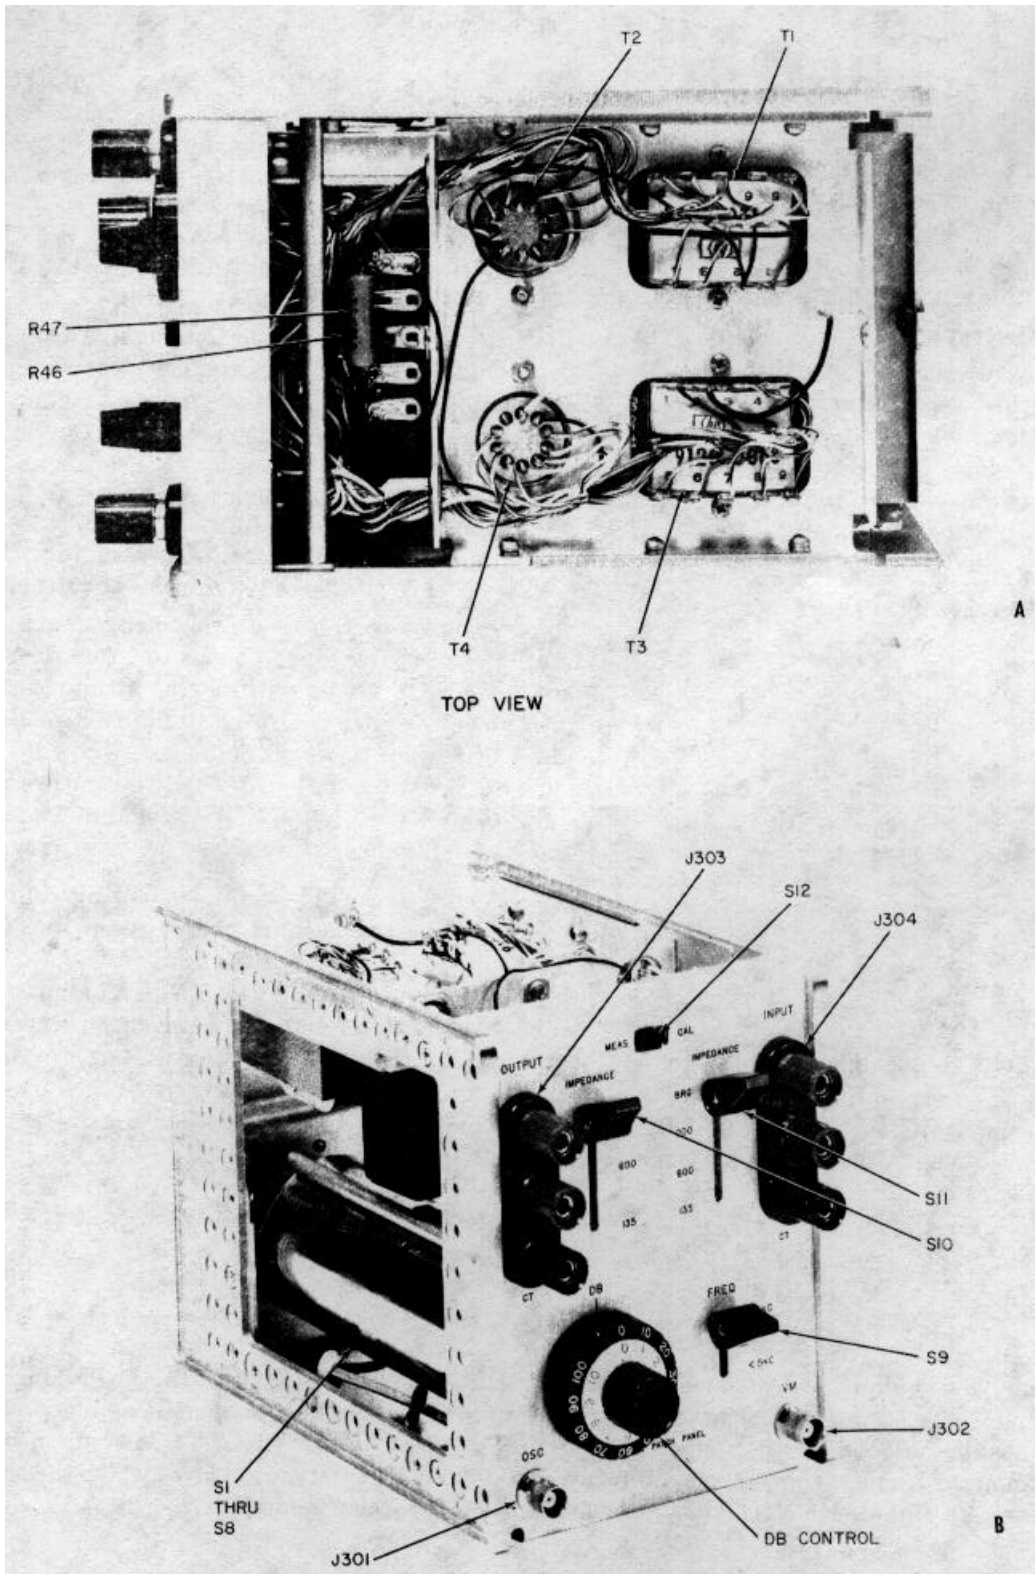

Figure 3-4. Attenuator, Impedance Matching CN-947B/USM-181 parts location diagram.
a. *General.* In the troubleshooting chart (c below), procedures are outlined for localizing troubles to a stage within the attenuator. The parts locations are indicated in figure 3-4. Voltage and resistance measurements are shown on the schematic diagram (fig. 5-15). The nature of the operational symptoms will determine which of the localizing procedures will be necessary.
b. *Use of Chart.* The troubleshooting chart supplements the operational check given in TM 116625-602-12-1. If previous operational checks have resulted in reference to a particular item of this chart, go direct to the referenced item. If no operational symptoms are known, begin with item 1 of the equipment operational procedures (TM 11-6625--602-12-1) and proceed until a symptom of trouble appears.